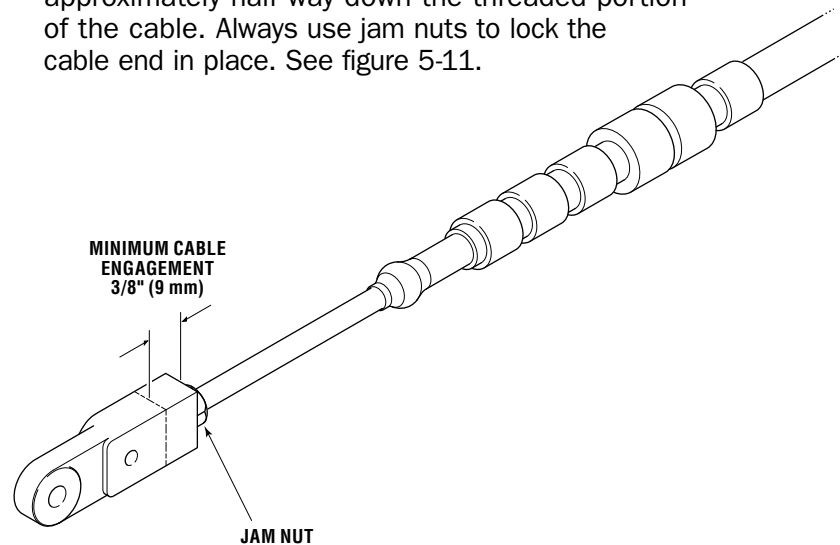

Figure 5-11. Cable End, engine side installation.
2. Connect the cables to the engine using the appropriate adapters. For new adapter kits, refer to the instructions provided with the kit. If reusing the existing cable ends, position the cable ends approximately half way down the threaded portion of the cable. Always use jam nuts to lock the cable end in place. See figure 5-11.
**There must always be at least 3/8" of thread engagement on the engine side cable end. See figure 5-11. If correct adjustment cannot be achieved while maintaining 3/8" of thread engagement, longer cable ends may be required.**